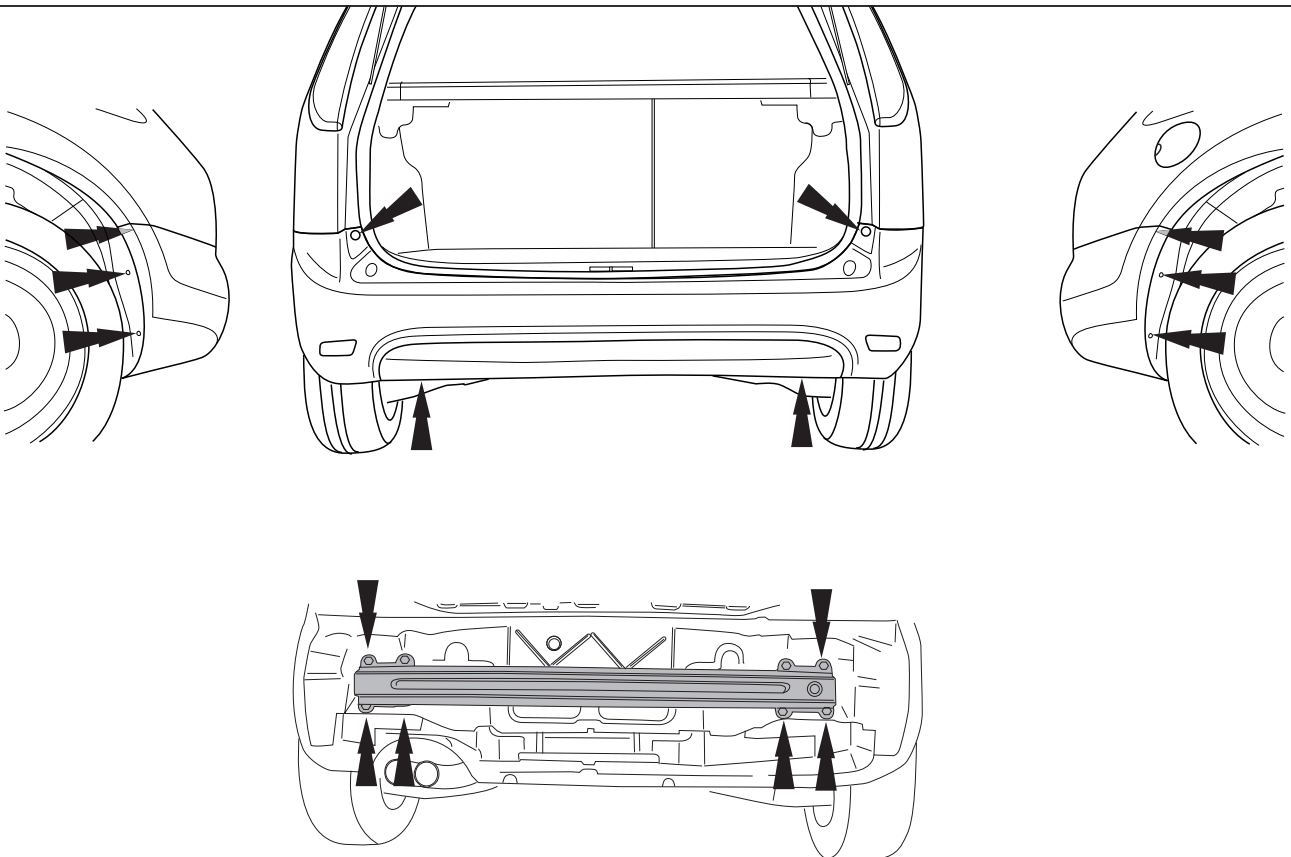

Fig.1
1. Remove the bumper. Remove the bumper inner fittings. See figure 1.
abmontieren. Siehe Abbildung 1.
1. Démontez le pare-chocs. Démontez la garniture du pare-chocs. Voir la figure 1.